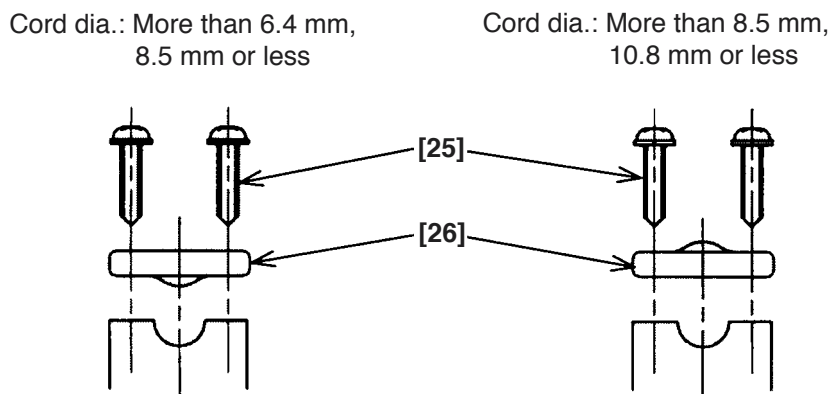

Fig. 10-2
(3) Be careful of the mounting direction of the Cord Clip [26]. (Fig. 10-2)